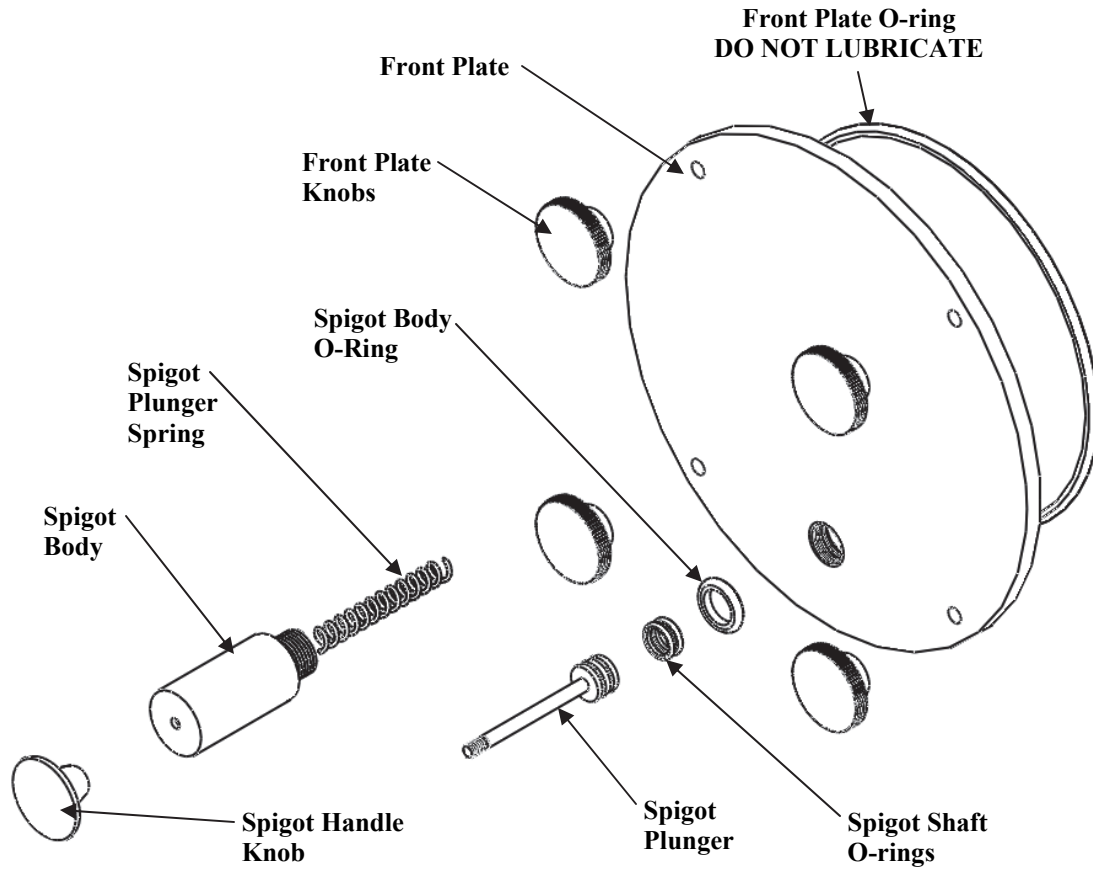

Fig. 10
5. Remove the front plate by turning the black plastic knobs in a counterclockwise direction (Fig. 10). Disassemble the front plate in the following manner: